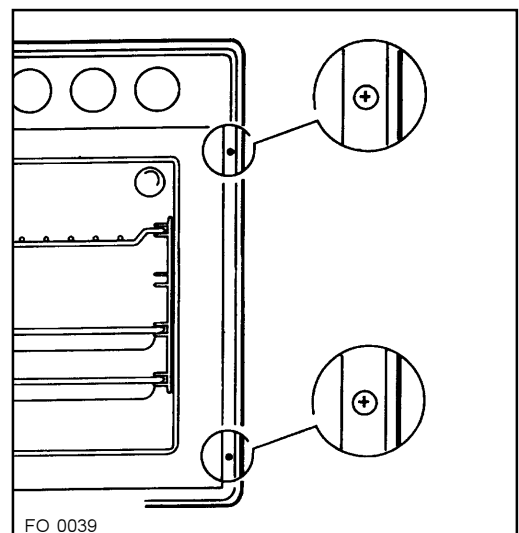

Fig. 14 FO 0039
- Open the oven door and secure the oven to the kitchen cabinet with four wood screws, which fit the holes provided in the oven frame (Fig.14).